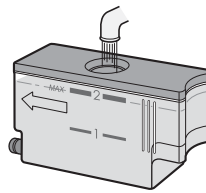

Figure 2
3. Fill the water tank with room temperature water suitable for drinking (filtered) through the lid to the 2 mark (MAX mark) each time you begin to cook. (Figure 2) Do not fill the water tank over the 2 mark (MAX mark).